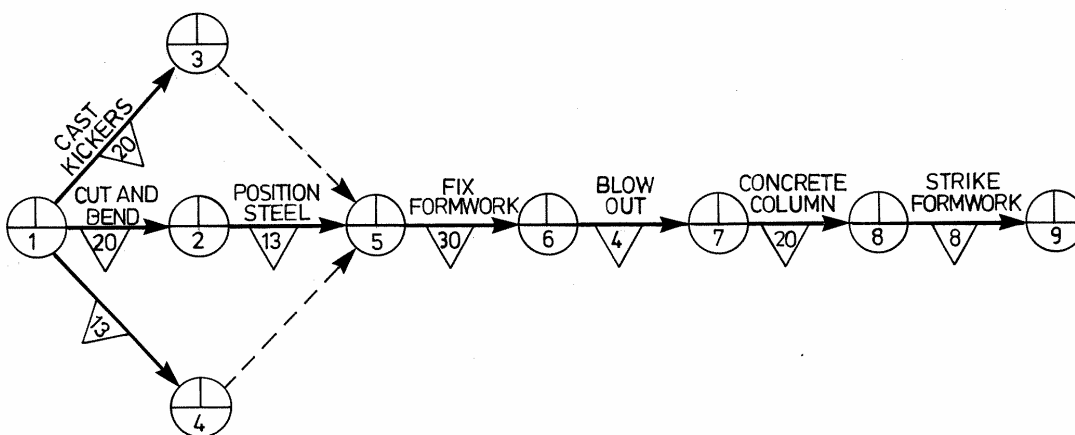

Figure 2
- b) Figure 2 below shows a critical path network. State by how much the work has overrun if the work was originally scheduled to take 91 days.